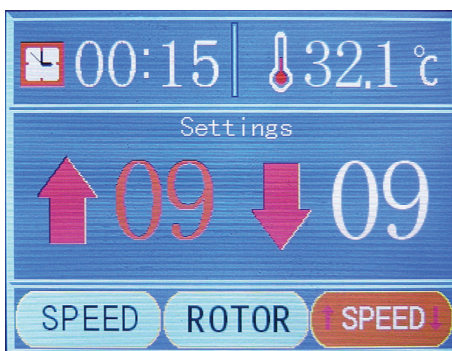

Figure 11 – Acceleration setup
- 7.6.8. Press the “ UP” button to adjust the acceleration of the rotating speed, or touch the screen and click the icon to do the same operation (**Figure 11**). There are 10 acceleration levels: 0 is the slowest while 9 is the fastest.